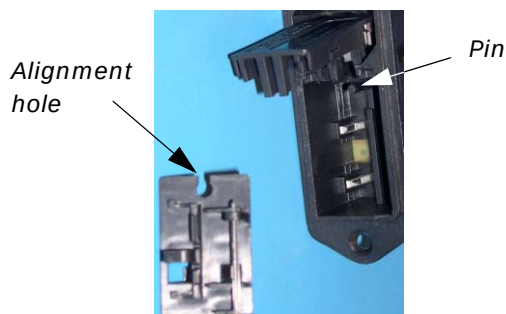

Figure 69. Installing the Fuse Block
- 6 Place the fuse block into the power entry port with the fuses toward the inside of the power entry port. The hole in the fuse block must line up with the pin in the power entry port housing as shown in Figure 69.